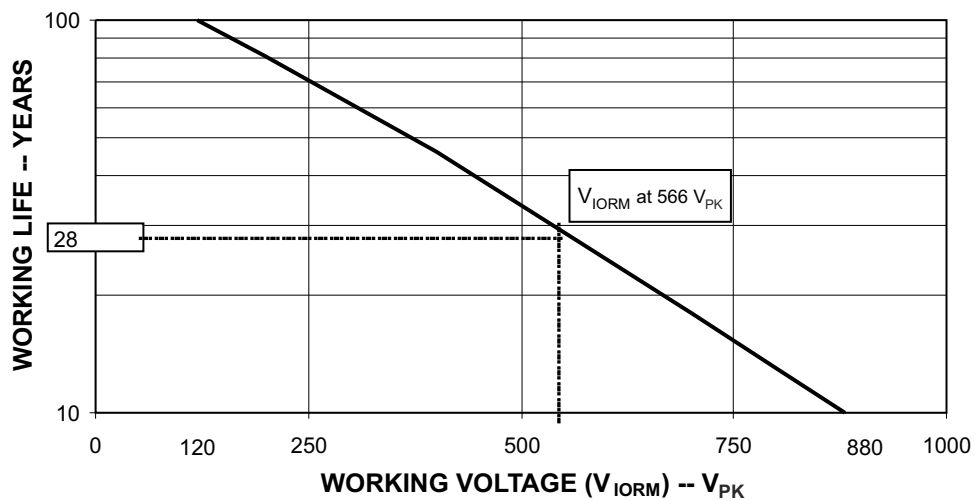

**Figure 9-3. Noise Model**
**Figure 9-3** models the ISO3086T bus IO connected to a noise generator.  $C_{IN}$  and  $R_{IN}$  is the device and any other stray or added capacitance or resistance across the A or B pin to GND2,  $C_{ISO}$  and  $R_{ISO}$  is the capacitance and resistance between GND1 and GND2 of the ISO3086T plus those of any other insulation (transformer, etc.), and we assume stray inductance negligible. From this model, the voltage at the isolated bus return is shown in **Equation 1** and will always be less than 16 V from  $V_N$ .
In **Figure 9-3** the resistor ratio determines the voltage ratio at low frequency and it is the inverse capacitance ratio at high frequency. In the stand-alone case and for low frequency, use **Equation 2**, or essentially all of noise appears across the barrier.